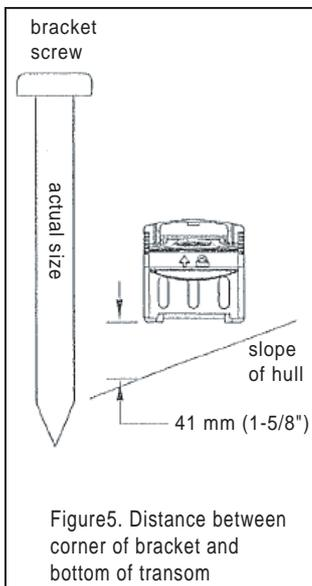

Figure5. Distance between corner of bracket and bottom of transom
1. Apply marine sealant to the threads of the three, #10 x 1-3/4", self-tapping screws to prevent water seepage into the transom (see Figure5). Screw the bracket (and shim if needed) to the hull. Do not tighten the screws.